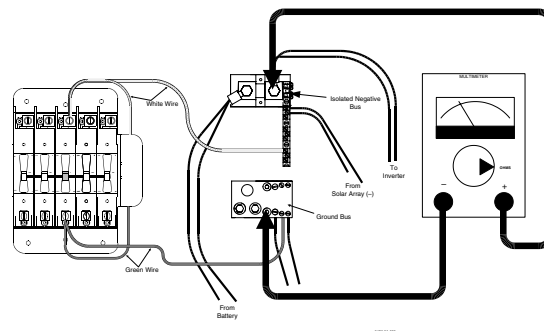

Figure 10
- a. Connect the ohmmeter between the ground block and negative/neutral block in the enclosure. Set the meter to its lowest resistance range. Refer to Figure 10 for location of the neutral and ground blocks.